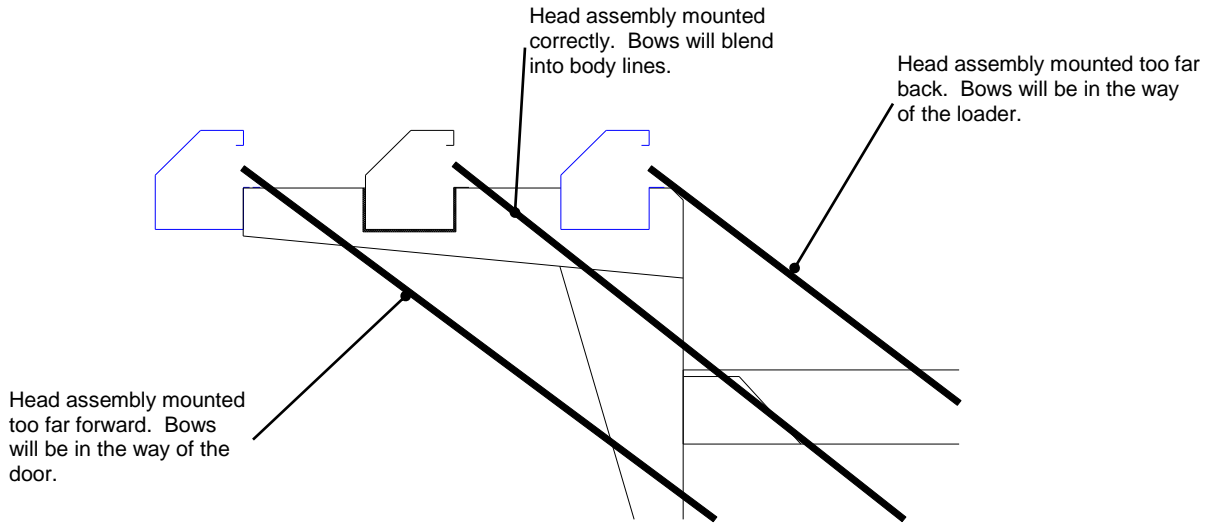

Figure 2
- a) Mounting position on this type of truck is determined by the placement of the tarp bows. Visualize a line from the opening of the head assembly to the pivot point as shown in **Figure 2**. See the Pivot Mounting Instructions for directions on finding the pivot point. **Note:** In situations where it is not possible to keep the bows out of the way of the door or loader, the head assembly should be mounted in a secure location, and the bows bent or angled for clearance (see Bow Installation Instructions).